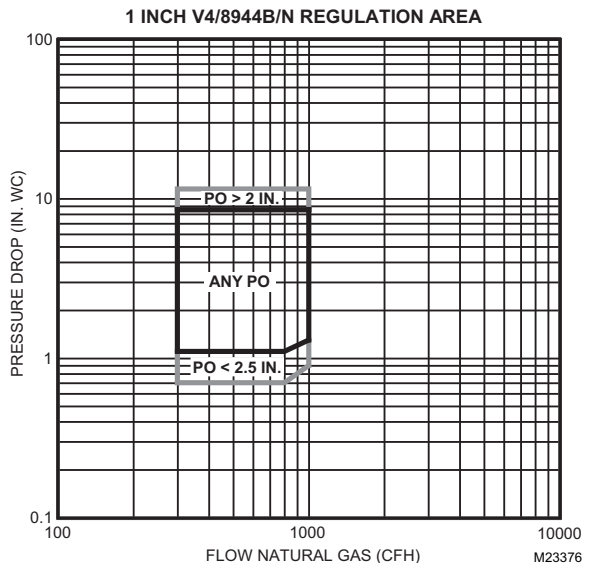

Fig. 2. Capacity vs. pressure drop of Natural Gas curves for 1 in. valve.
5. Use the corrected burner capacity in cfh when determining the gas valve size in Figs. 2–9.
6. Determine the maximum pressure drop across the valve and draw a vertical line at this pressure in Figs. 2–9.